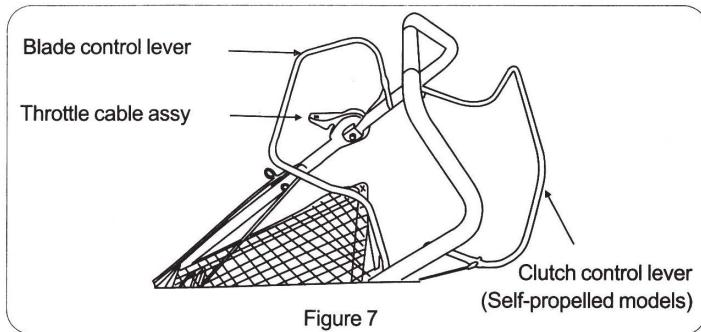

Figure 7
3. Collect the BLADE CONTROL LEVER (see Figure 7) braking the engine together with the upper handle and then start the engine.
4. Collect CLUTCH CONTROL LEVER (see Figure 7) controlling the clutch together with the upper handle and then start the engine.
5. Should change the moving direction, please release the CLUTCH CONTROL LEVER (see Figure 7), and then turn.
6. When the collector is full..please release the CLUTCH CONTROL LEVER and then release the BLADE CONTROL LEVER (see Figure 7).